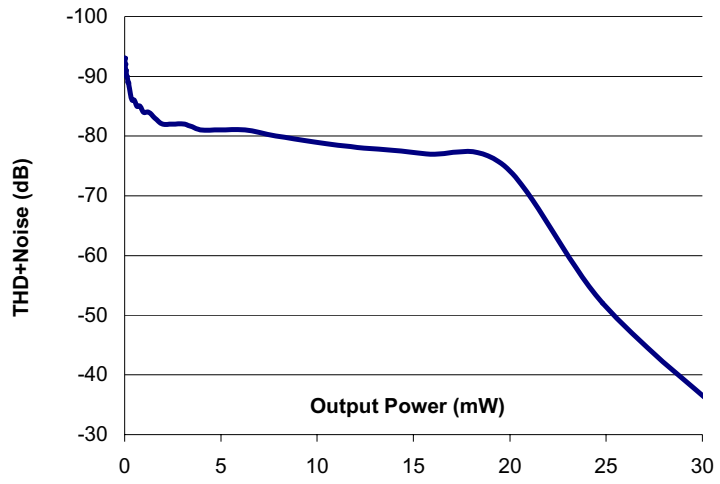

Figure 3 Distortion Versus Power on Headphone Outputs, using 32Ω Load and AVDD = HPVDD = 3.3V
1. Harmonic distortion on the headphone output decreases with output power – see Figure 3.